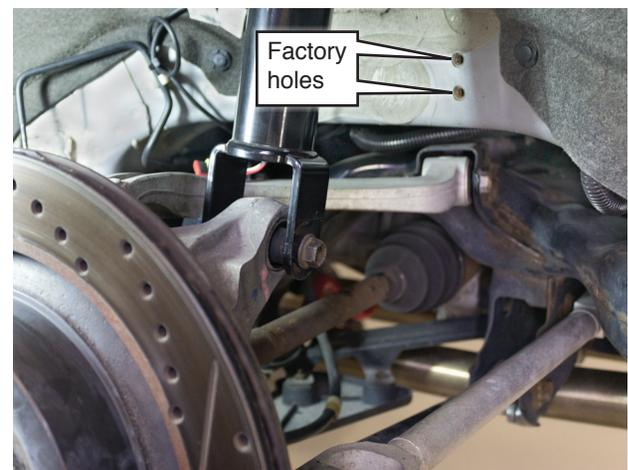

fig. 12
2. The upper bracket (A or B) uses two factory holes with welded nuts that have nothing in them (Fig. 12). There is likely to be some rust on the threads. Use an M8-1.25 thread tap to chase the threads.